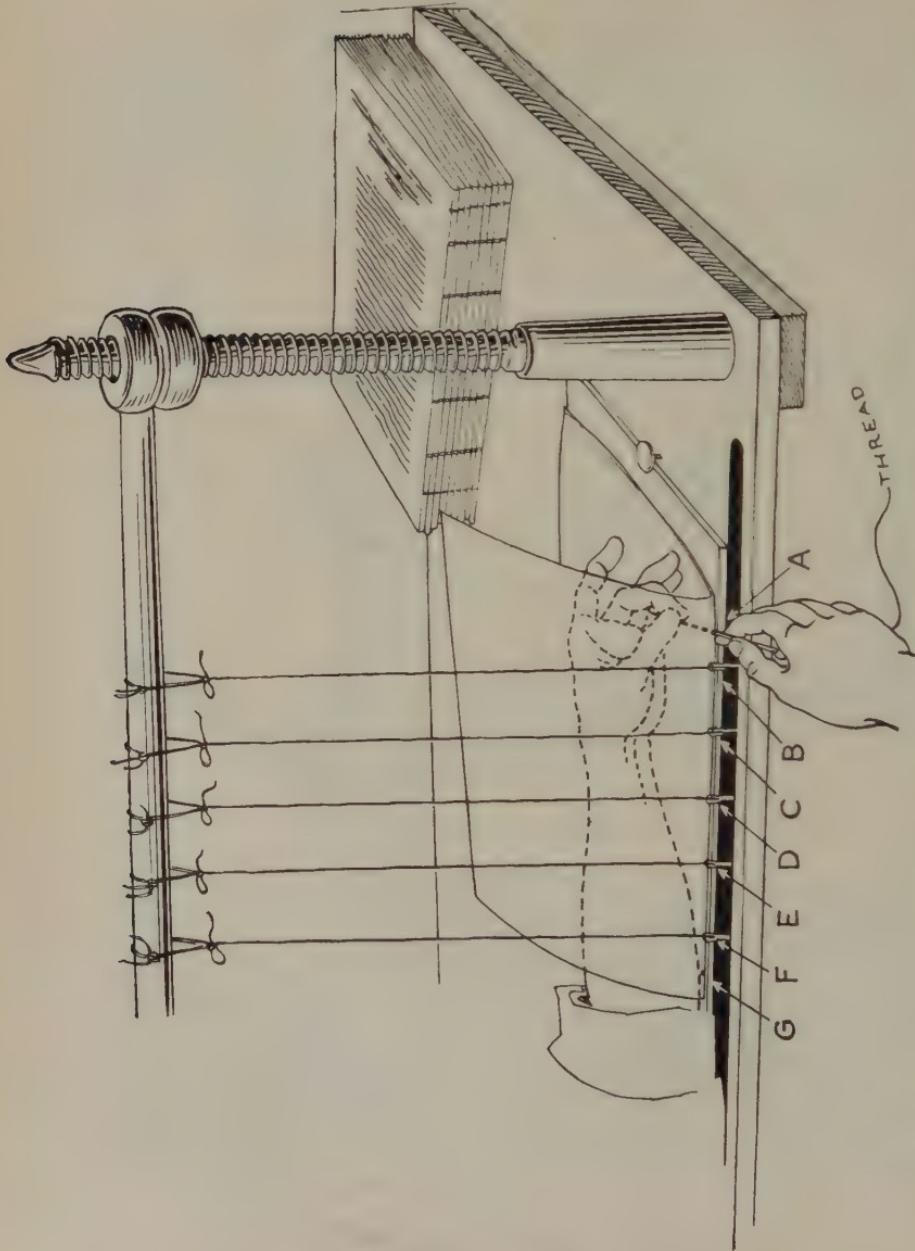

FIG. 164—THE SEWING FRAME IN USE, SHOWING ADJUSTMENT OF CORDS, POSITION OF MATERIAL TO BE SEWN AND OF OPERATOR'S HANDS WHILE SEWING.
Fasten it in position with thumb tacks to prevent slipping. This board is to facilitate easier passage of sewing needle through sections first sewn close to frame base. (See Fig. 164.)
at (B), but on *left* side of cord, close to cord; grasp needle again with left hand and pass it out again at (C), on the *right* hand side of cord (C); repeat process as at (B). Continue across entire length of section and *come out* finally at kettle-stitch groove (G). This calls for use of right and left hands alternately. See Figs. 164 and 171.
11. Place the second section in position as you did the first, place left hand inside section to hold it and operate needle. Pass the needle in at (G) on this second section, along the inside of section to (F) out on the left side of band or cord; in again on right side of cord and repeating process at (E), (D), (C), and (B) come out at (A).